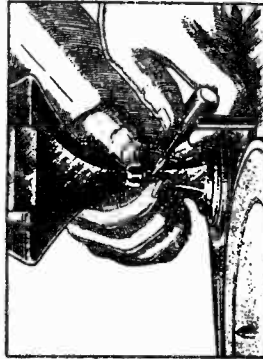

Figure 2—Adjusting height of tone arm
5. Place a Home Recording needle into the pickup as far as it will go. Then lower the pickup on the side of the turntable. The needle should extend from $\frac{1}{16}$ " to $\frac{1}{8}$ " below the top of the metal edge of the turntable. If it does not, an adjustment cap be made by means of a screw located under the tone arm. Lifting the arm provides accessibility to the screw. See Figure 2.